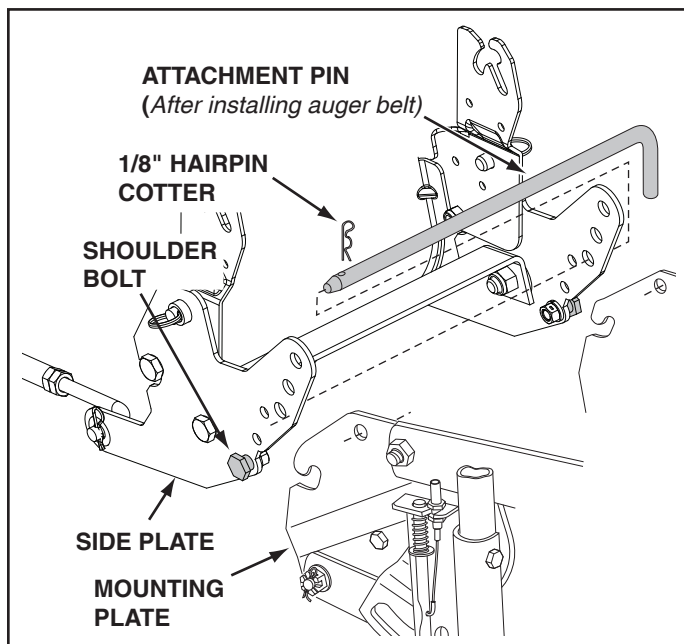

FIGURE 22
STEP 22: (SEE FIGURE 22)
STEP 25: (REFER BACK TO FIGURE 22 ON PAGE 14)